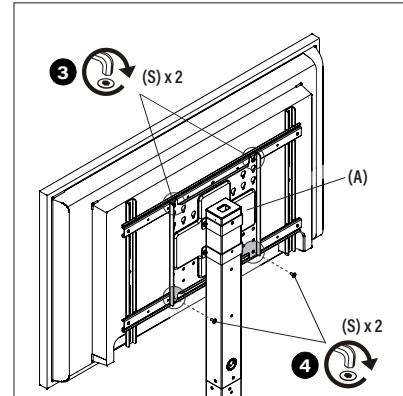

Figure 8
(3) Install two 5/16-18 x 5/8" screws (S) through the face plate assembly (A) into the lower horizontal interface (C). (See Figure 8)
(4) Tighten two 5/16-18 x 5/8" screws (S) in upper horizontal interface. (See Figure 8)